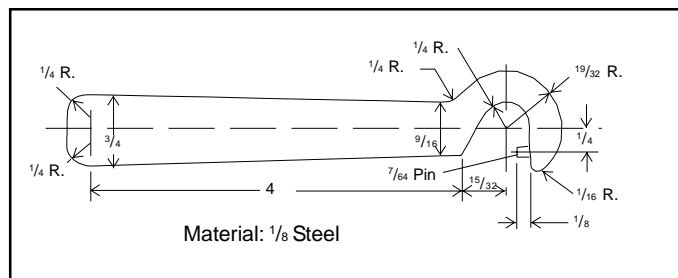

Figure 2 - Wrench
- Spanner wrench - used for disassembling and assembling the regulating valve. Dimensions for this wrench are shown in Figure 2.